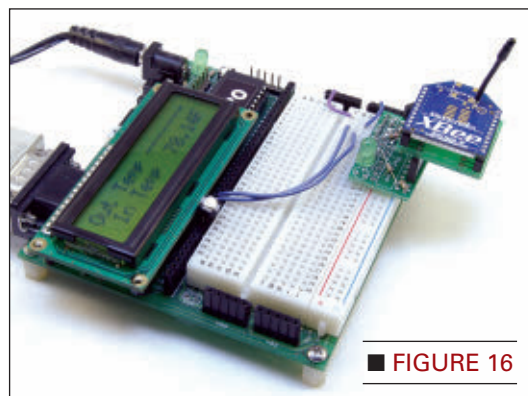

FIGURE 16
• **STEP 3:** Attach the LCD as shown in Figure 16 and load the program called LCDreceiver1.txt. The data will now appear on the LCD display. Use the button to cycle through the different displays. I have included another program called LCDreceiver2.txt. In this file, rain and lightning data is displayed.